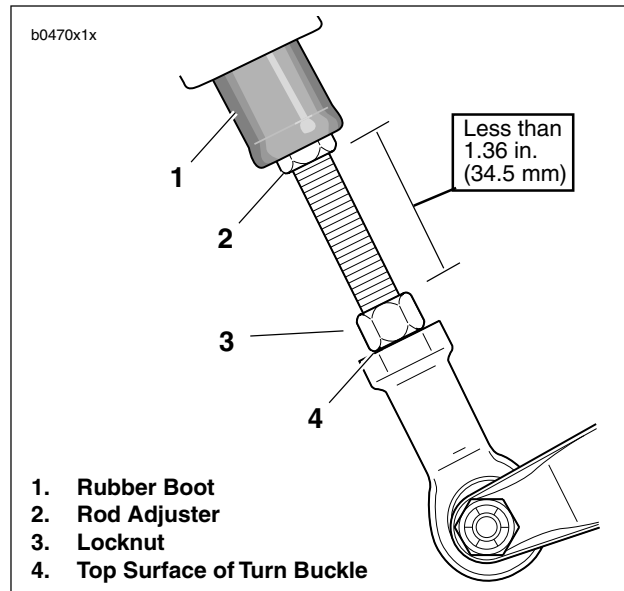

Figure 1-12. Pushrod Adjustment
1. See Figure 1-12. Inspect locknut (3) installation. Locknut should be flush with top surface of turn buckle (4).
2. Measure distance from bottom edge of rod adjuster (2) to top surface of locknut (3).
See Figure 1-12. Minimum allowable pushrod thread engagement inside turn buckle is 0.24 in. (6.1 mm).
3. See Figure 1-12. Adjust brake pedal height.
- a. Loosen locknut (3) while holding rod adjuster (2). Move locknut away from top surface of turn buckle.
- c. Return locknut (3) to fit flush against top surface of turnbuckle (4).